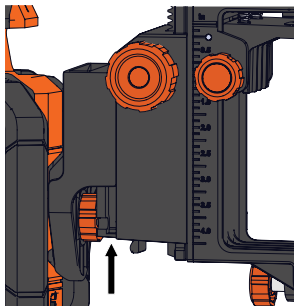

Figure 33
2. With laser attached, slide laser mount on to track mount until it clicks into place. (Figure 33)